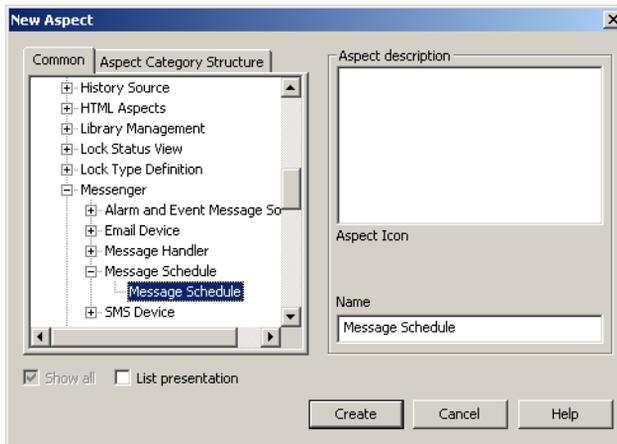

Figure 108. New Aspect Dialog Box (Message Schedule)
- a. Navigate to and select Message Schedule from the list that appears to produce the view shown in Figure 108.